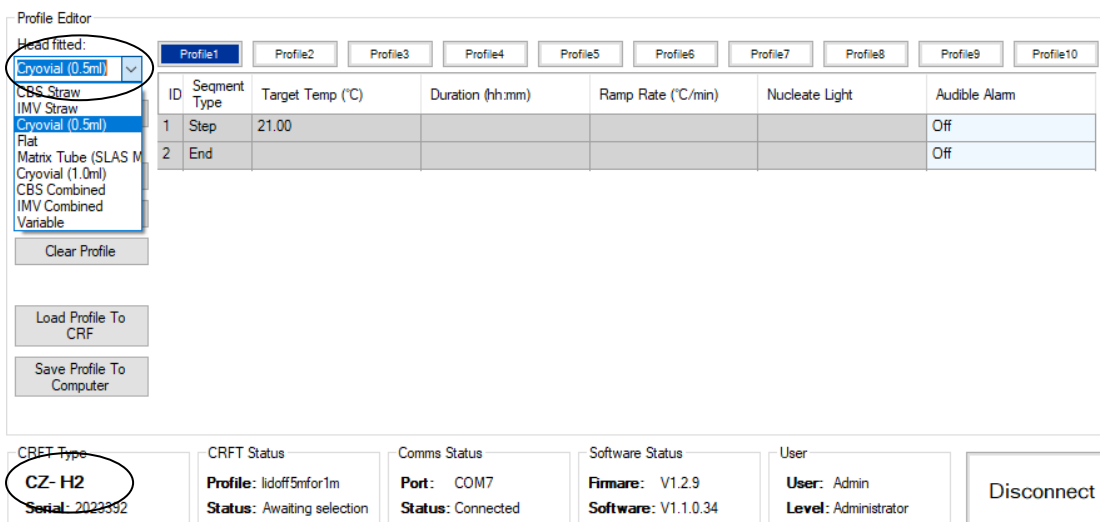

Figure 15: Change profile head type
*Note: Changing the **Head fitted** will change the **CRFT Type** parameter with the correct head index, see Figure 15.*